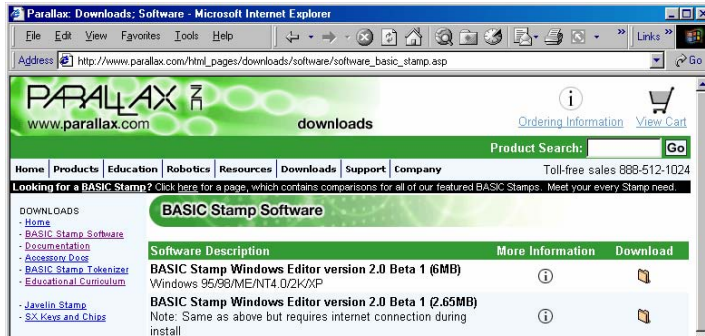

Figure 1-5
- ✓ Click the Download icon. In Figure 1-5, the Download icon looks like a file folder to the right of the description: “BASIC Stamp Windows Editor Version 2.0 Beta 1 (6MB)”.